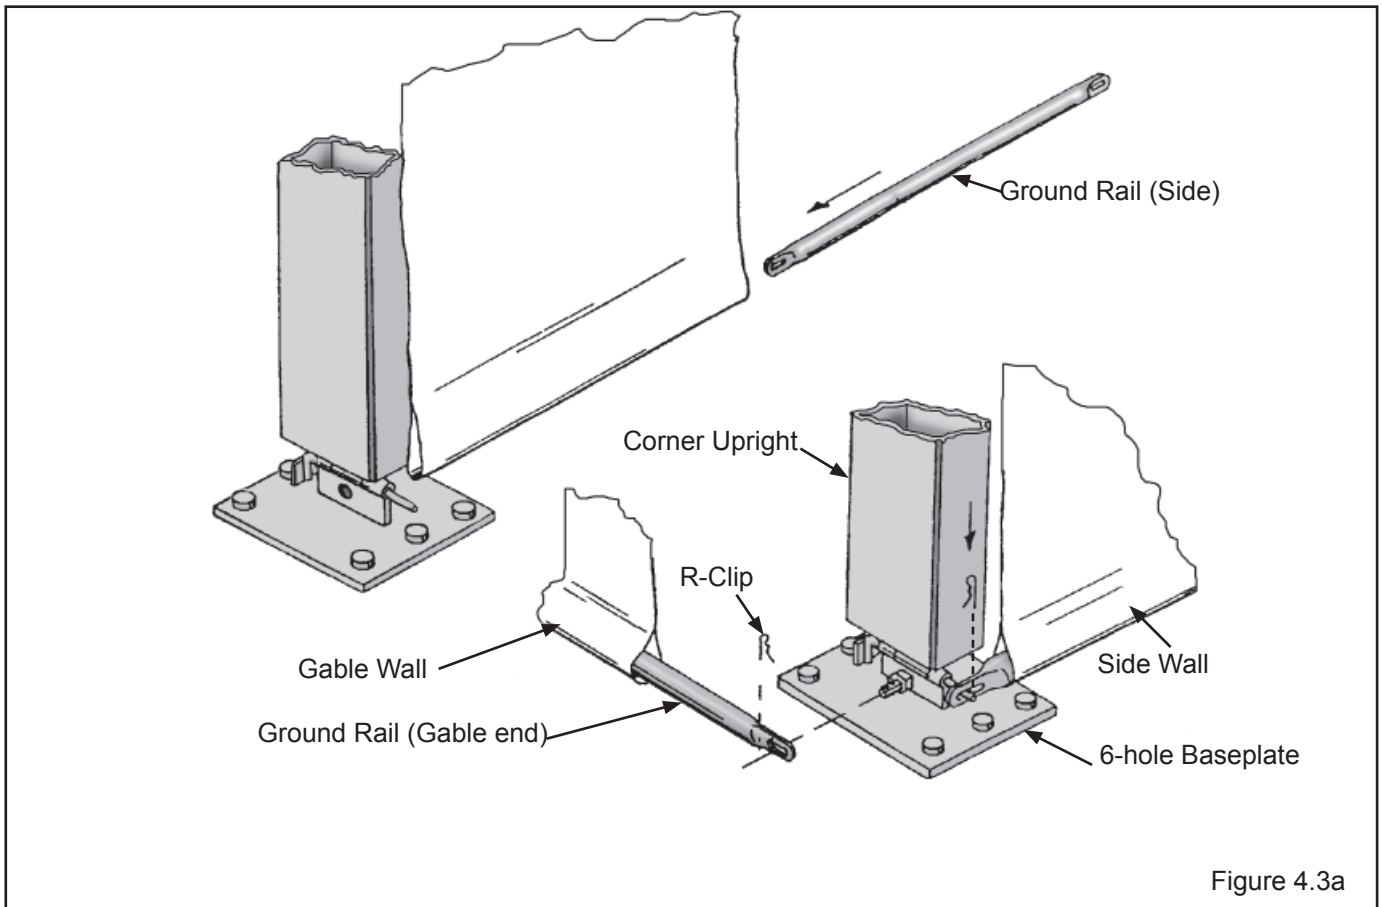

Figure 4.3a
- 4.3.3 Insert Ground Rails into bottom pocket of all mid walls and secure to base plate L-Pins at all mid uprights as shown in **Figure 4.3a**.
- 4.3.4 Insert Ground Rails into top pockets of all gable end walls and secure to end of cable bracing eyebolt at base of gable end corner upright (**Fig. 4.3a**) and to Gable End Base Plate L-Pin.